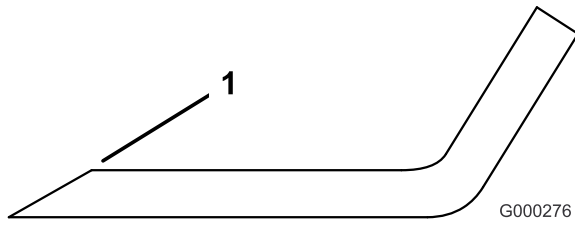

Figure 84
3. Examine the cutting edges of all of the blades. Sharpen the cutting edges if they are dull or nicked. Sharpen only the top of the cutting edge and maintain the original cutting angle to make sure of sharpness (Figure 84). The blade will remain balanced if the same amount of metal is removed from both cutting edges.